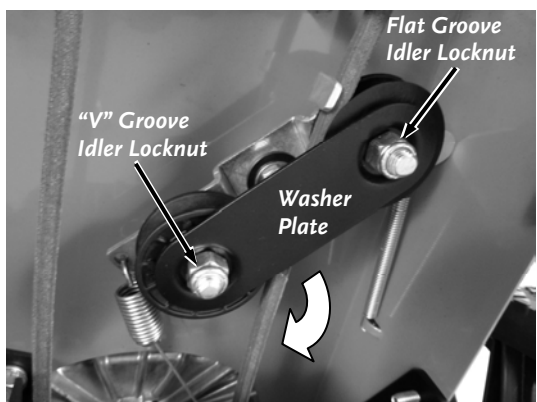

Figure 31
5. Remove the Locknut that secures the Washer Plate to the flat groove Idler Pulley using a 9/16" Wrench (**Figure 31**). Loosen the other Locknut to the V groove Idler Pulley using a 9/16" Wrench just enough so the Washer Plate can be rotated out of the way.
13. Rotate the Washer Plate onto the Flat Groove Idler Stud and install the Locknut using a 9/16" Wrench (**Figure 31**). Tighten the "V" Groove Idler Locknut using a 9/16" Wrench.